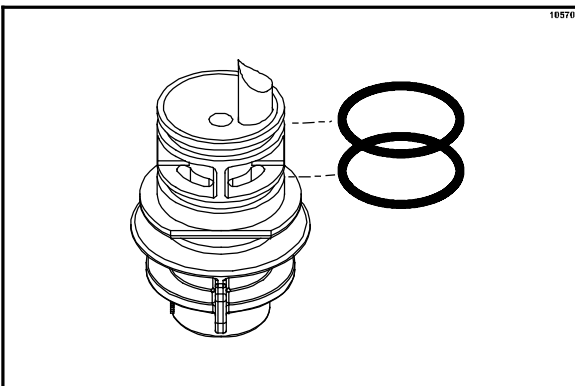

Figure 44
20. Remove the o-rings from the nozzle. (See Figure 44.)